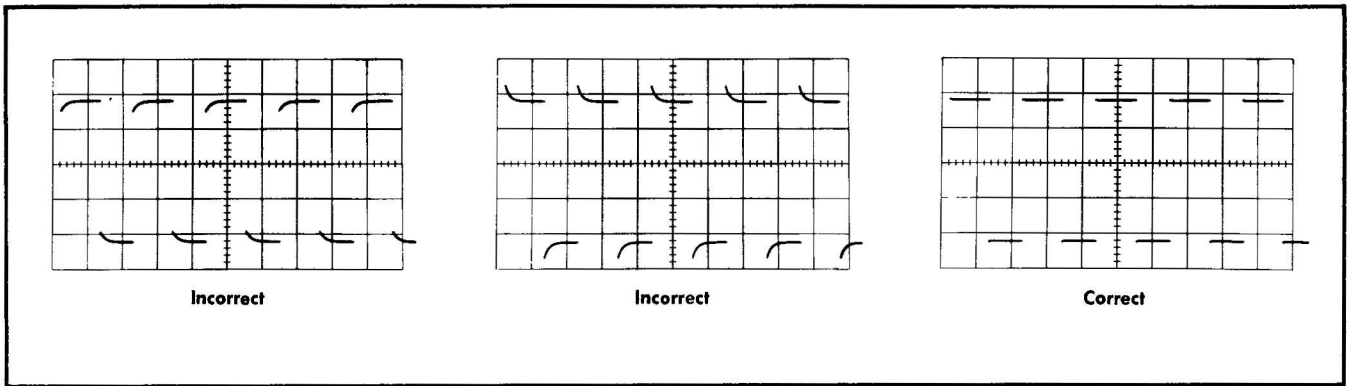

Fig. 2-4. Probe compensation waveforms using 1-kHz calibrator signals.
4. Adjust the probe compensation for best square-wave response as shown in the right-hand picture of Fig. 2-4.